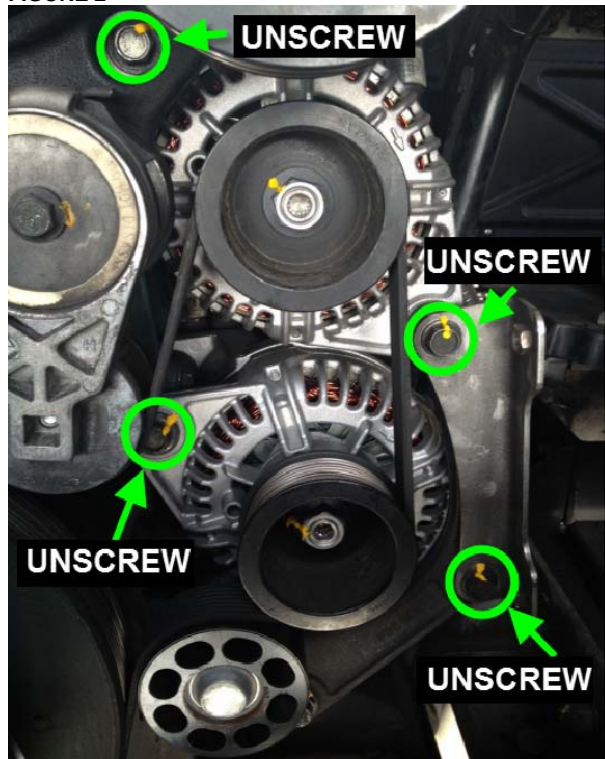

FIGURE 3
5. Remove the existing alternators. To do so, unscrew identified mounting bolts on figure 3.